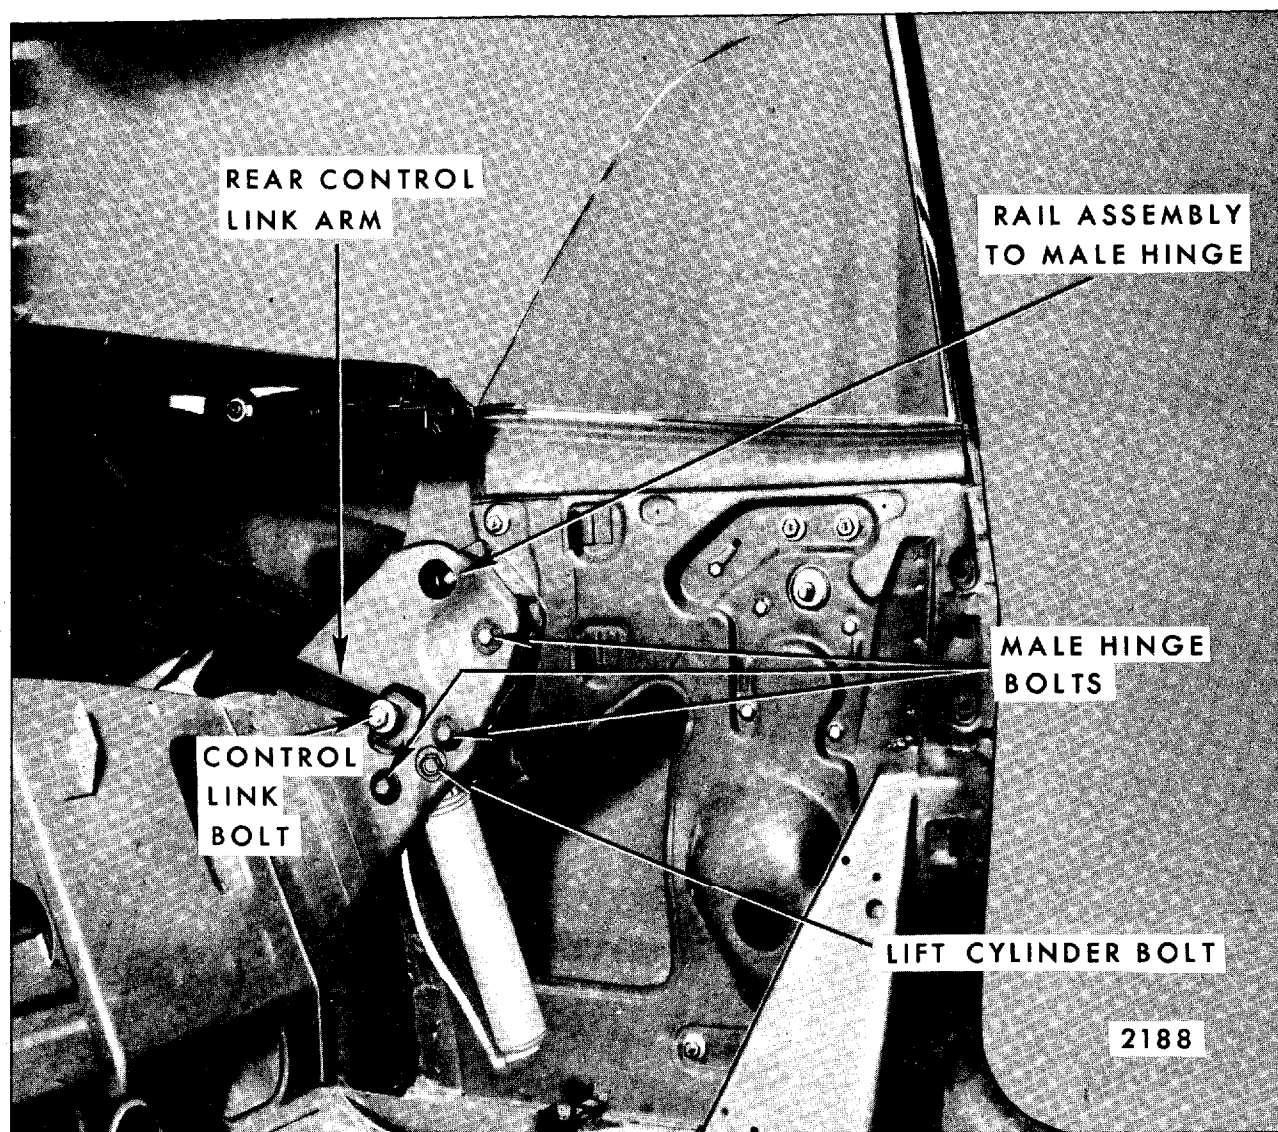

Fig. 6-81—"A" Body Convertible Top Linkage Attachments
- b. Loosen one bolt securing control link sufficiently to permit adjustment of link (See Fig. 6-81).
- b. Loosen male hinge assembly (Fig. 6-81).
- b. Loosen male hinge assembly (see Fig. 6-81).
- c. Rotate male hinge forward to lower stack height or rearward to raise stack height (Fig. 6-81).
NOTE: When rotating male hinge be certain position of rear rail to male hinge is maintained (Fig. 6-81).
2. Male hinge assembly misaligned.	Adjust male hinge assembly rearward. (Fig. 6-81).
1. Male hinge assembly misaligned.	Adjust male hinge assembly rearward. (Fig. 6-81).